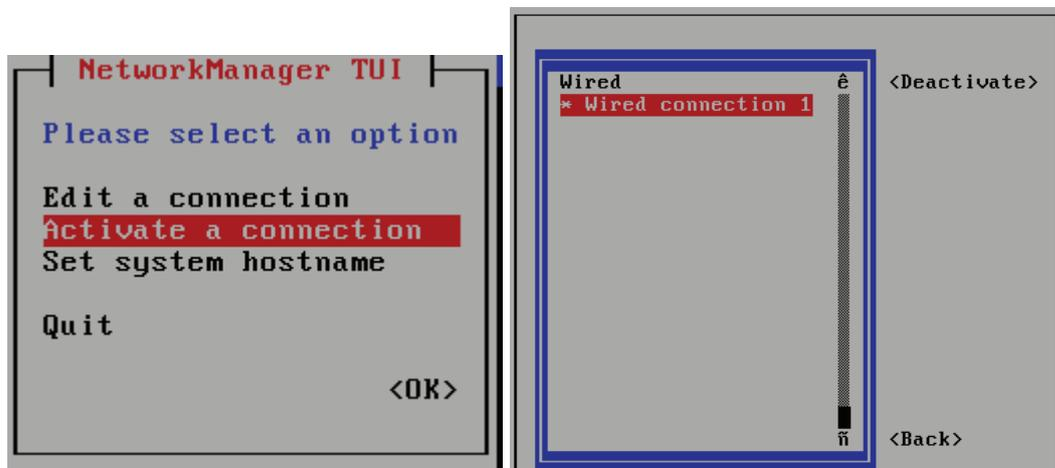

Figure 21. Connection Activation
- h) Returning to 'NetworkManager TUI' page follows the Operations in the Figure 21. Check whether the connection is active and return to the 'NetworkManager TUI' page. (To be active, it should look like the Figure 21). Finally, 'Quit' is output from the tab.